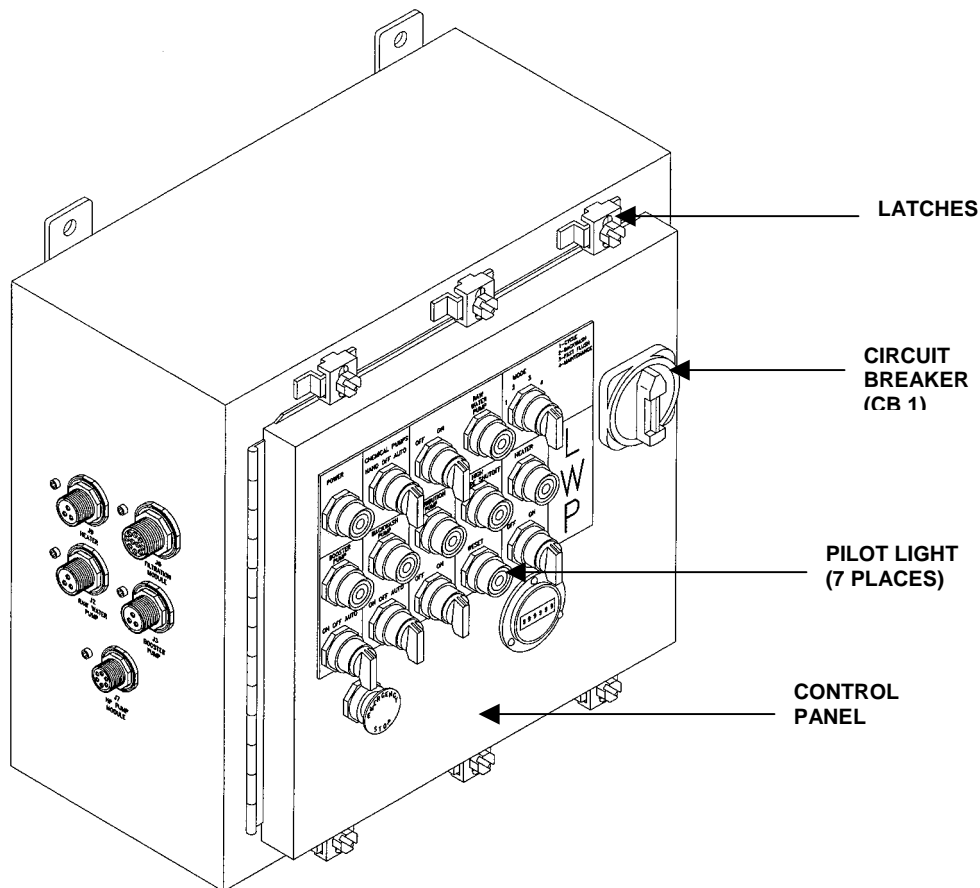

Figure 1. Control Module.
2. Test the pilot light by pressing on the lens. The light should come on if the bulb is serviceable. See Figure 1.
2. Loosen and slide the eight Latches off the control panel. See Figure 1.
3. Hold the panel closed with one hand to allow the switch (2) to rotate. Keep the hand on the panel.
4. Turn the safety tab (1) clockwise with the other hand. Do not let go of the safety tab (1).
5. Turn the switch (2) counter-clockwise. The safety tab (1) and the switch (2) should be squeezed together.